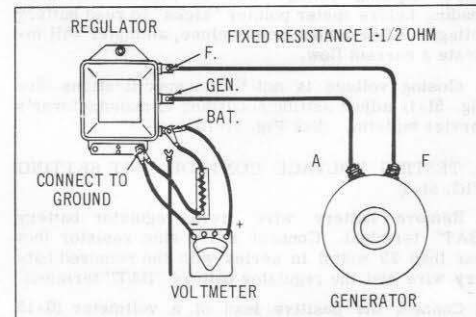

Figure 5I-6.
3. With the regulator cover in place and the regulator at operating temperature, increase the engine speed to approximately 2700 RPM (45 MPH road speed) and read the voltmeter. If the voltmeter reading falls within the limits given in Fig. 5I-1, it indicates that the voltage regulator is operating properly.
If the voltmeter reading does not fall within the limits given in Fig. 5I-1, the voltage regulator must be replaced or adjusted according to manufacturer's Service Bulletin.